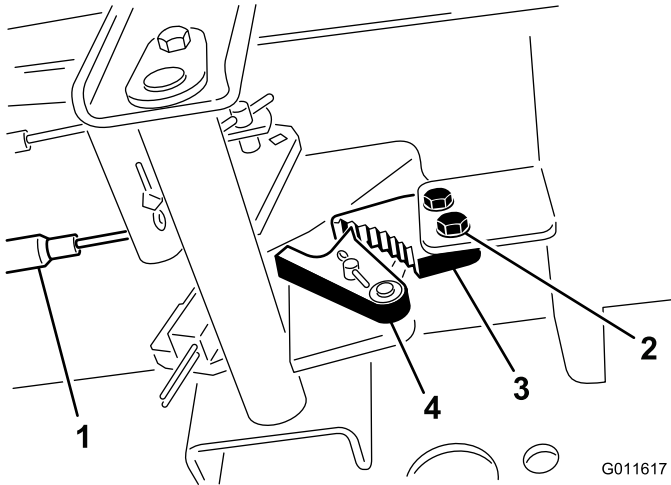

Figure 68
1. Loosen the 2 screws securing the parking-brake pawl to the frame (Figure 68).
2. Press the parking-brake pedal forward until the brake detent completely engages on the brake pawl (Figure 68).